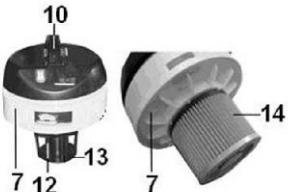

Fig. 3
- Carefully remove from the filter case (13) the folded paper filter (14) or polyurethane filter (15) (Fig.3, 4) and clean them from dust and dirt (13);
- If necessary, carefully blow out the folded filter (14) with compressed air from the inside to the outside;